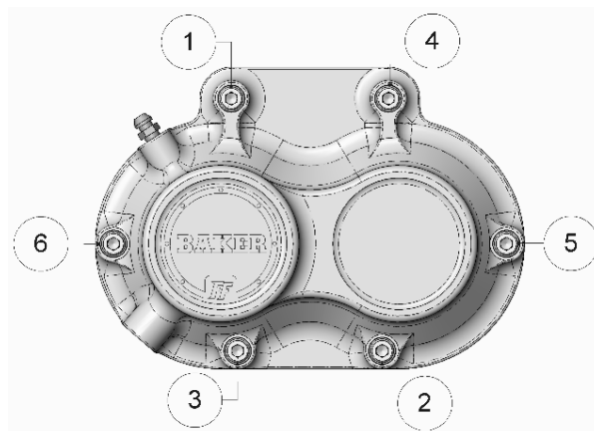

FIGURE 4 | TORQUE SEQUENCE
- Using the provided fasteners, torque the side cover bolts to 130 in-lb using blue thread lock. Refer to the proper torque sequence to the right (figure 4).